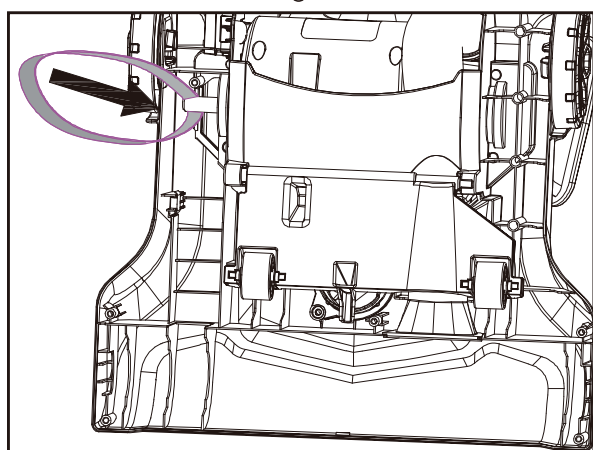
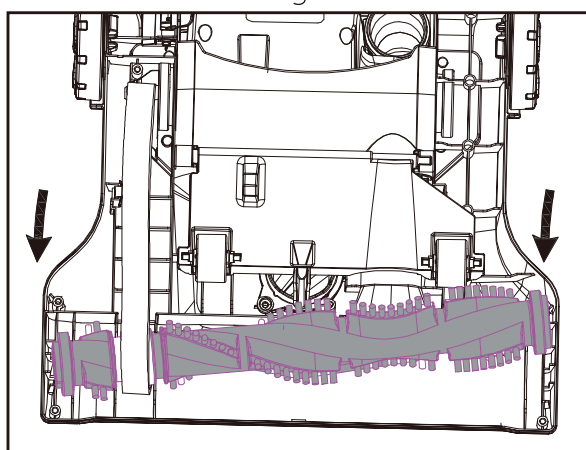

Fig 3
Fig 4
5. Press handle release latch and pull out handle (Fig.3).
6. To attach accessories, push desired tool onto end of wand (Fig.4).
5. Use a rod or similar blunt implement to clear a blockage in wand or hose. Stretch hose to loosen debris. (Fig. 3). Use caution if there is any sharp objects that could have become imbedded in hose.
7. Use finger to check for debris in air path (Fig. 4).
- To replace belt, position new belt around motor shaft (Fig. 3), loop new belt around brush roll bar shaft at left end of brush roll bar, then insert left end of brush roll bar first, align brush roll bar end cap with slot to make it fit into position, press right end of brush roll bar into position (Fig.4)